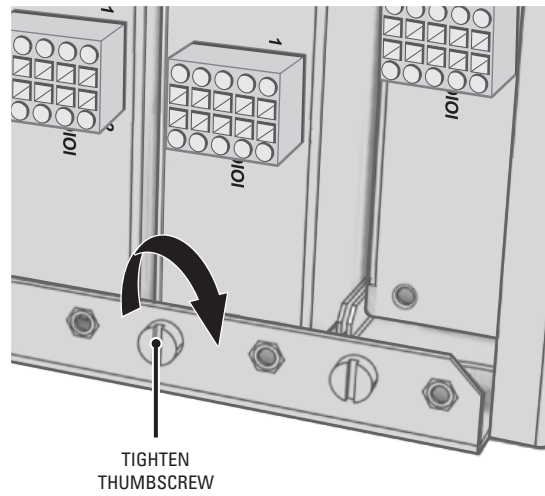

Figure 9. Tighten Thumbscrew to Secure the Unit
3. Tighten the thumbscrew on the rack mount to secure the unit into the rack (refer to Figure 9).